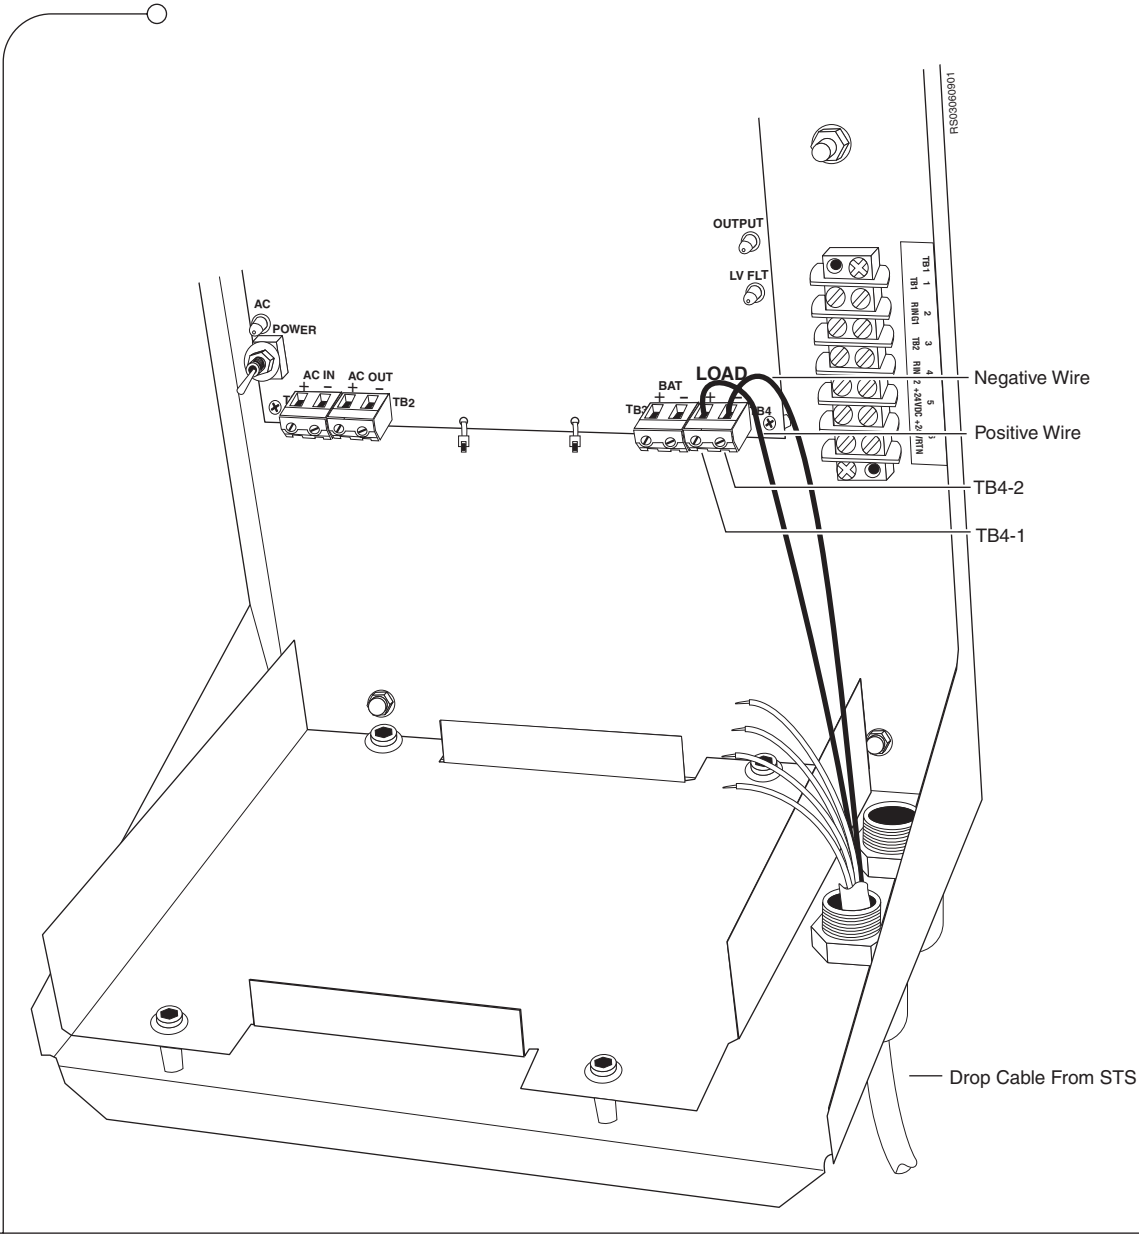

Figure 3.17 Power Connection from the STS Power Pack to the STS
1. Insert the drop cable through one of the glands located at the bottom of the STS Power Pack as shown in Figure 3.17 on page 59.
1. Insert the service drop jumper cable through either cable entry glands of the STS Power Pack as shown in Figure 3.17 on page 59.